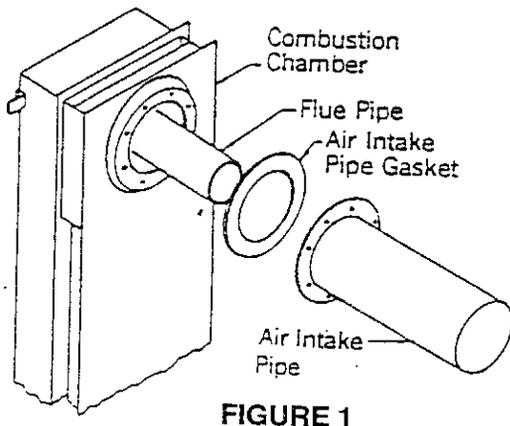

FIGURE 1
a. Install vent pipes on unit by removing the rear wall shield (item no. 1 on the parts drawing) from the back of the unit by removing two sheet metal screws. Apply a liberal amount of furnace cement to the outside of the small diameter flue pipe flange that is welded to the rear of the combustion chamber, then slide the flue pipe onto it. Attach the air intake pipe, with the gasket properly aligned, to the back of the combustion chamber with 8 sheet metal screws (See figure 1). Slide the insulation pipe onto the flange on the rear wall shield and replace the shield on the back of the heater.